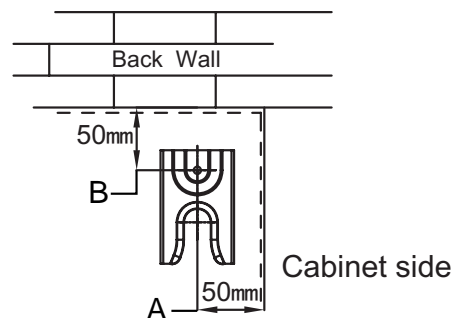

Figure 3
Warning: In order to prevent tipping of the cooker, the anti-tilt bracket must be installed with cooker. To install Anti-tilt bracket, use screwdriver to mount the anti-tilt bracket (1) with screws (2) to the ground, as shows in Figure 3.